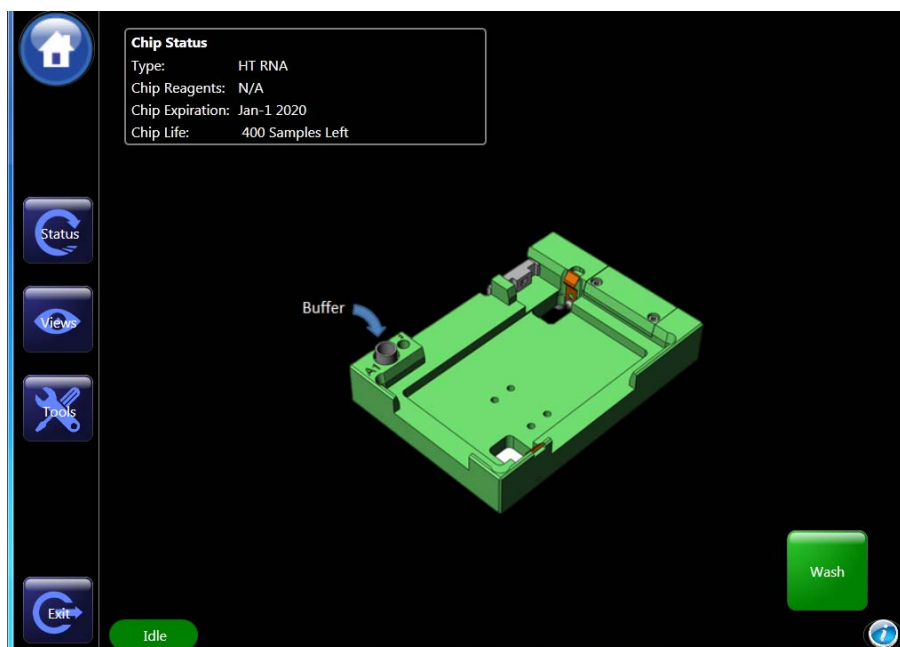

Figure 16. Wash screen
- 6 Touch the **Wash** button in the upper right corner of the Home screen. The Wash screen opens as shown in Figure 16.